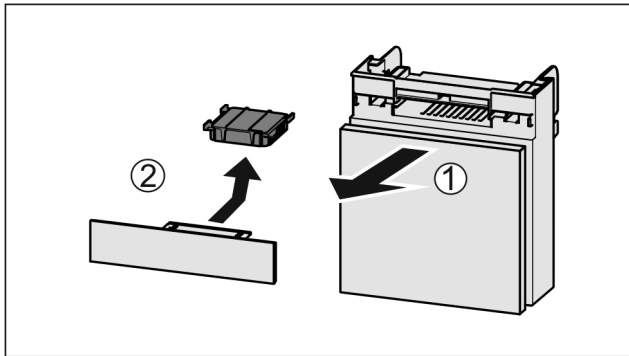

Fig. 200
- ▶ Pull out the compartment Fig. 200 (1).
- ▶ Remove the carbon filter Fig. 200 (2).